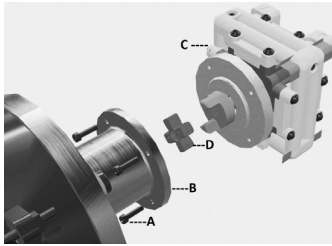

Figure 3
1. Remove all 4 hex head screws (A) holding the pump assembly (C) to the motor flange (B). See Fig. 3.
2. Separate the pump assembly (C) from the motor flange (B).
3. Retain the elastomeric coupling sprocket (D).